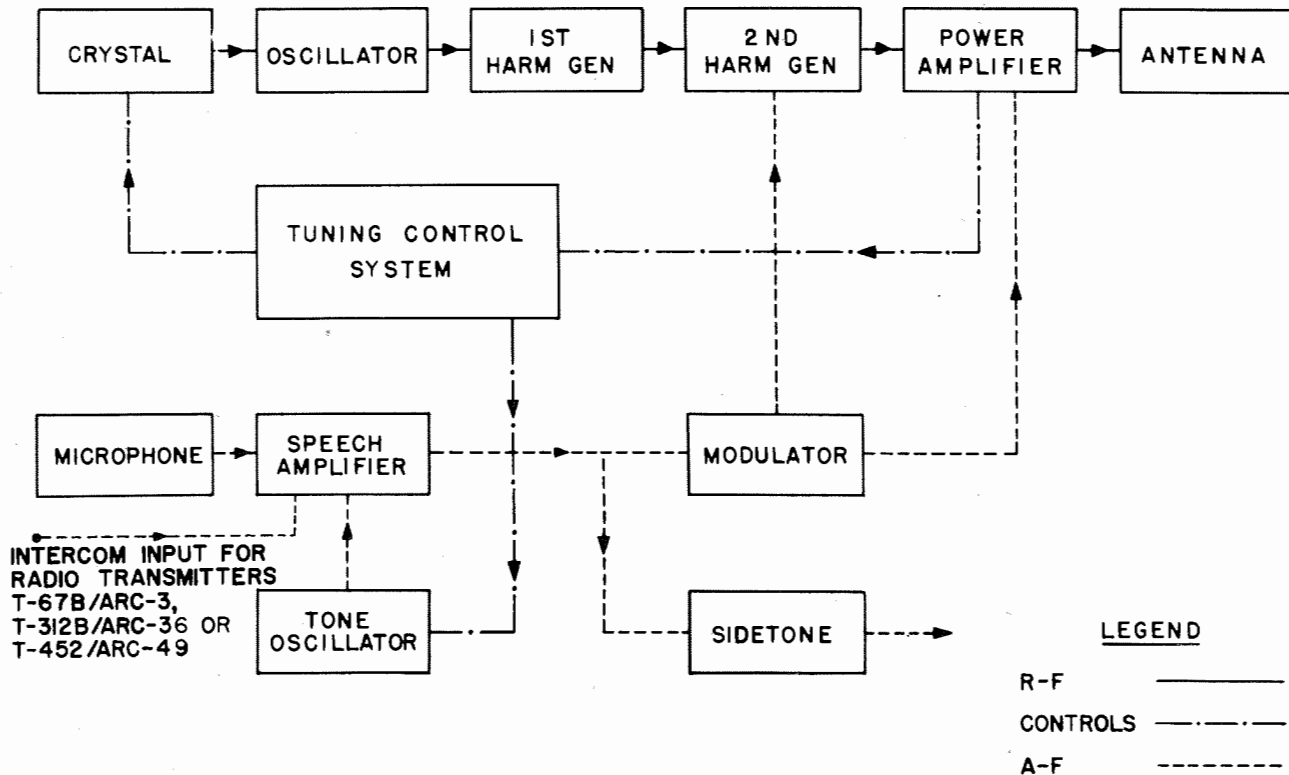

Figure 4-1. Radio Transmitter—Block Diagram
a. RADIO TRANSMITTER T-67/ARC-3, T-67A/ARC-3, T-67B/ARC-3, T-312/ARC-36, T-312A/ARC-36, T-312B/ARC-36 or T-452/ARC-49.—The circuit for the transmitter (see figs. 4-1 and 8-25) is not unusual, except that the tuning system works in coordination and simultaneously with the receiver tuning system. It is so designed that channels may be set up without the necessity of tuning adjustments. The variable capacitors are driven by a motor, which is controlled by the harmonic generator circuit in such a fashion that the tuning drive mechanism is stopped automatically when the variables are tuned to the pre-set frequency. The circuit employs a crystal-controlled oscillator, the plate circuit of which is tuned to the second harmonic of the crystal. Two tripler stages follow the oscillator and precede the final amplifier, thus making the final output frequency 18 times that of the crystal. The second tripler is push-pull. It drives a push-pull final output stage, which is modulated by a push-pull modulator circuit, driven by a triode speech amplifier. A side-tone amplifier is wired in parallel with the modulators and amplifies the audio signal for transmission monitoring purposes.